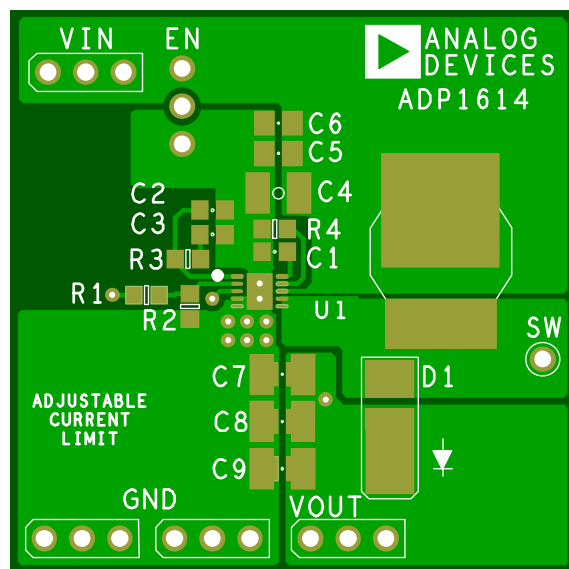

Figure 35. ADP1614 Recommended Top Layer Layout for the Adjustable Current-Limit Boost Application
- Keep the low ESR input capacitor ( $C_{IN}$ ), which is labeled as C4 in Figure 35, close to VIN and GND. This minimizes noise injected into the part from board parasitic inductance.
- Keep the high current path from VIN through the inductor (L1), the rectifier (D1), and the output capacitor ( $C_{OUT}$ ), which is labeled as C7 in Figure 35, as short as possible.
- Connect the soft start capacitor ( $C_{SS}$ ), which is labeled as C1 in Figure 35, as close as possible to the device. Connect the ground of the soft start capacitor to an AGND plane that makes a Kelvin connection to the GND pin.
- Connect the current-limit set resistor ( $R_{CL}$ ), which is labeled as R4 in Figure 35, as close as possible to the device. Connect the ground of the CL resistor to an AGND plane that makes a Kelvin connection to the GND pin.